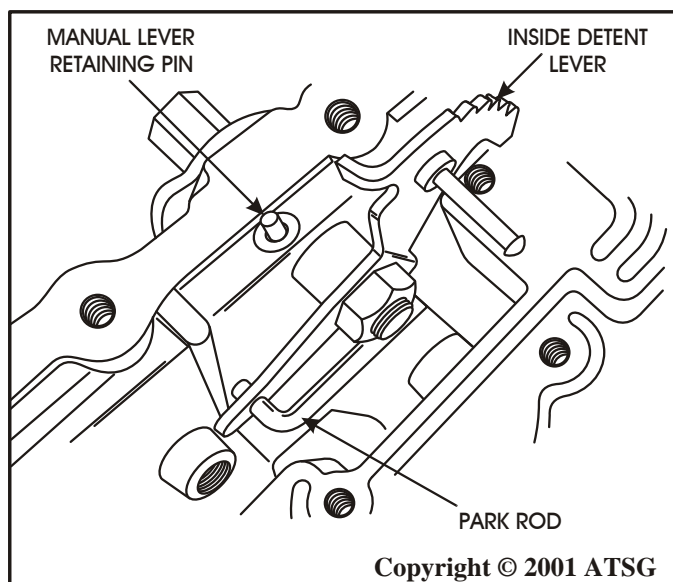

Figure 129
4. Install the manual lever, inside detent lever and park rod assembly, manual lever retaining pin and torque nut to 48Nm (35 ft.lb.). Refer to Figure 129.